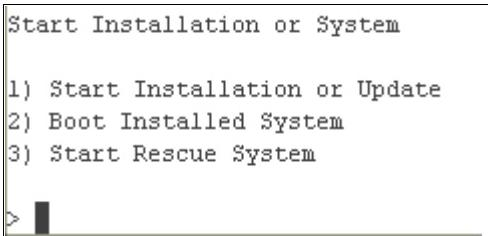

Figure 9-15 Start installation or update option
6. Choose **1) Start Installation or Update**, as shown in Figure 9-15.